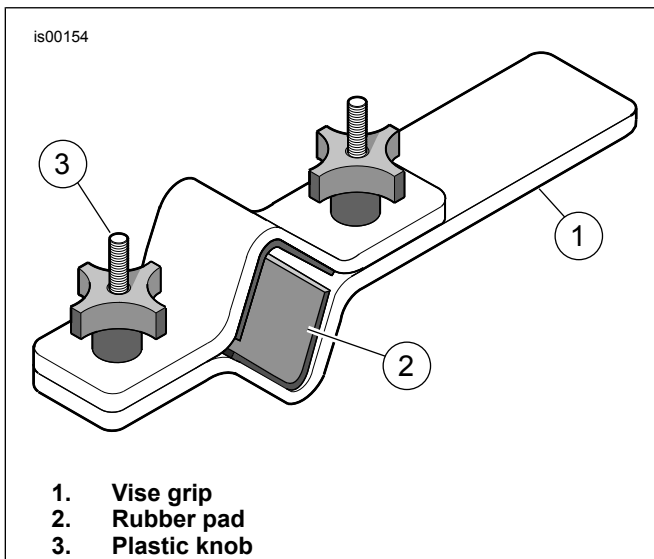

Figure 1. Fork Tube Holder (HD-41177)
1. See Figure 1. Install fork in Fork Tube Holder (HD-41177):
- a. Clamp end of tool (1) in vise in a horizontal position.
2. See Figure 1. Install fork in Fork Tube Holder (HD-41177).